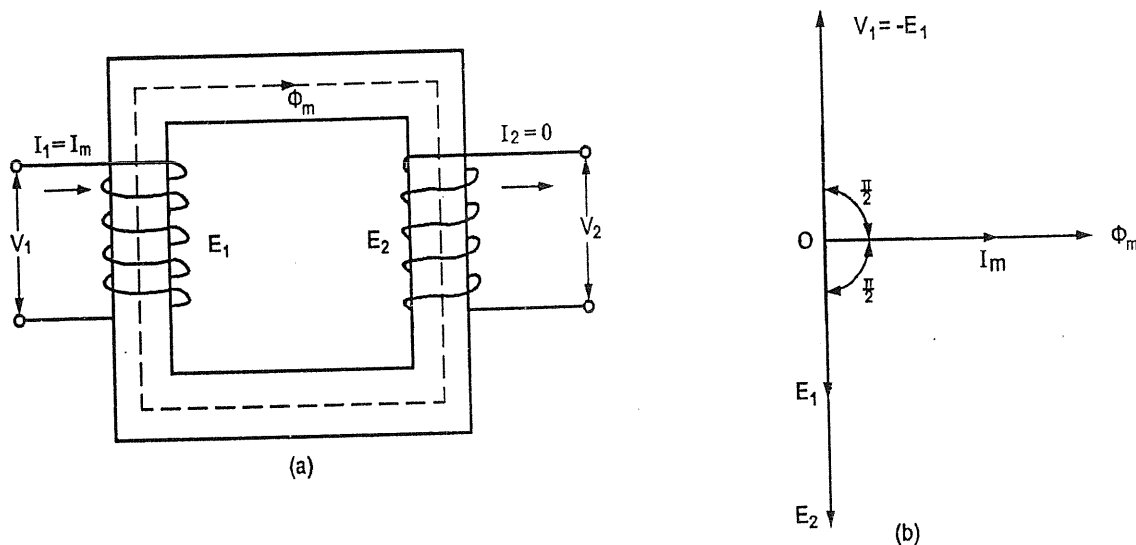

FIG. 3.16 : IDEAL TRANSFORMER
- An ideal transformer is shown in Fig. 3.16(a). It consists of two coils. The winding connected to the supply (V_1) is called the primary winding. The winding connected to the load is called the secondary winding.
- Flux ϕ_m also links with secondary winding and induces emf E_2 in it. This emf lags 90° behind flux. Fig. 3.16(b) shows the vector diagram.